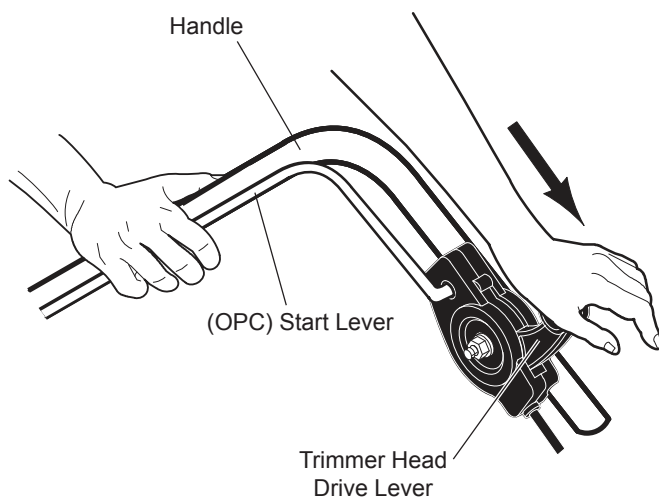

Figure 9
6.11.1 To engage the trimmer head hold the start lever against the handle. Move the trimmer head drive lever forward to engage the trimmer head (See Figure 9).